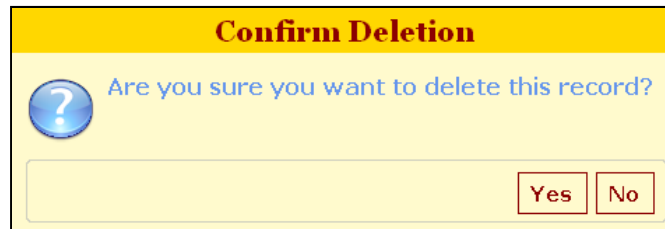

Figure 5-38: Deletion Confirmation Box
4. Confirm deletion by clicking the Yes button, Figure 5-38.